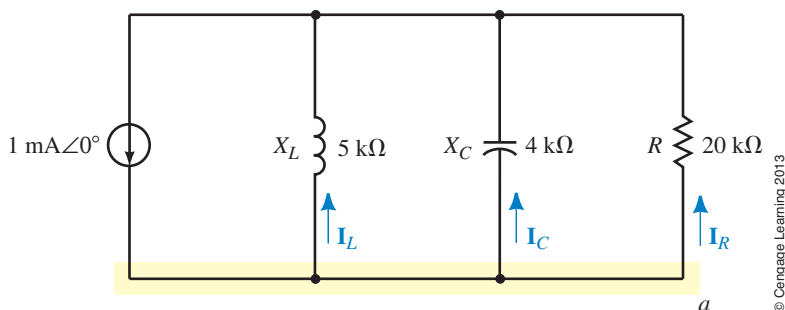

FIGURE 18-109
41. Use the current divider rule to find the current in each of the elements in Figure 18-109. Verify that Kirchhoff's current law applies.